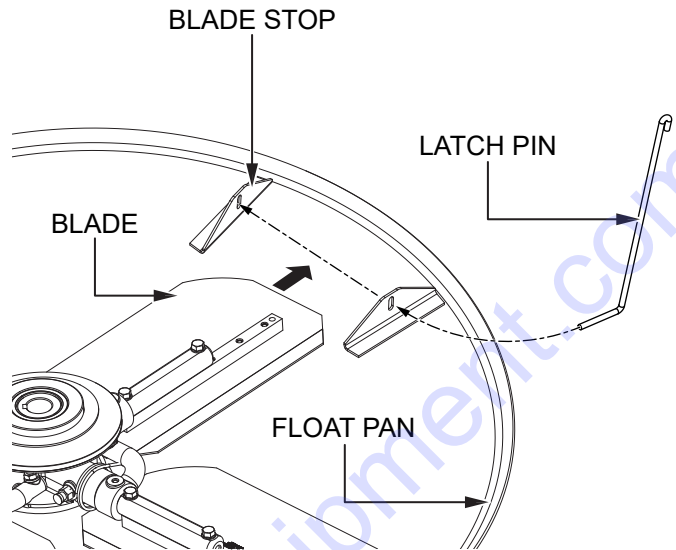

**Figure 21. Float Pan Installation (Z-Clips)**
1. Lift the trowel just enough to slide pans under the blades. Lower the trowel onto the pans with the blades adjacent to the Z-clips (Figure 21).
3. Secure the blade tie-downs to the far side of the Z-clip brackets with the tie-down knobs (Figure 21).
4. Make sure the blade edges are secured under the Z-clips, and the tie-downs are secured completely over the edges of the blade bar (Figure 21).